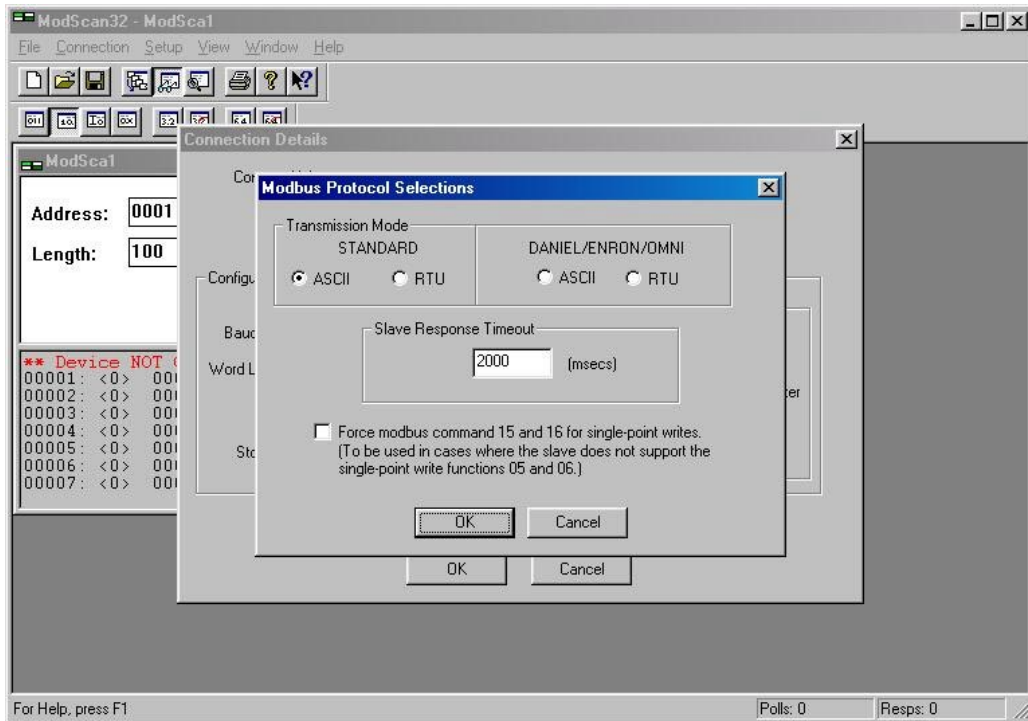

FIGURE 7. MODBUS PROTOCOL SELECTION DIALOG BOX
3. Click on the “Protocol Selections” button and verify that “STANDARD ASCII” is selected (see Figure 7).